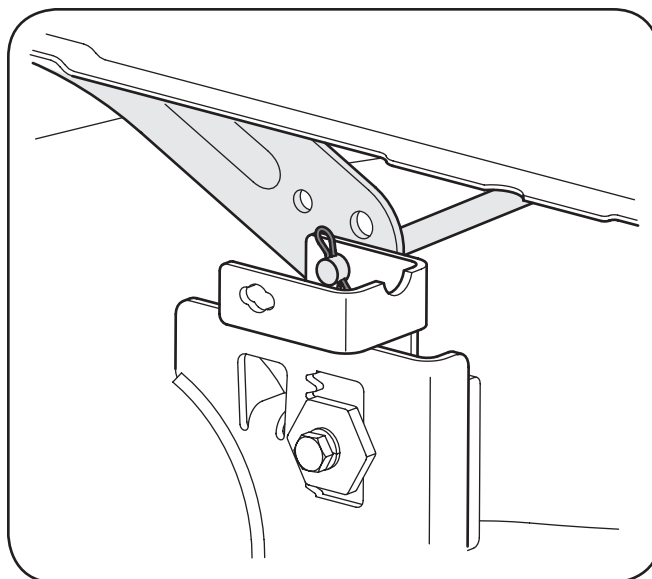

Figure 7-2
5. Looking at the cutting deck from the left side of the tractor, locate the bow-tie pin that secures the deck support rod on the rear left side of the deck. See upper half of Figure 7-2. Remove the bow-tie pin that secures the deck support rod, and carefully remove the deck support from the deck lift arm.